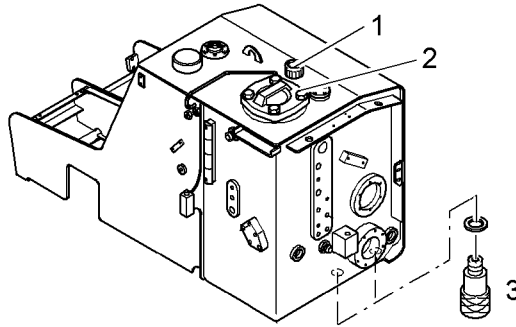

Fig. 5-35 Draining and refilling the hydraulic oil
- ▶ Keep the drain hose on the drain valves **3** (siehe Fig. 5-35) until oil which contains no water flows.